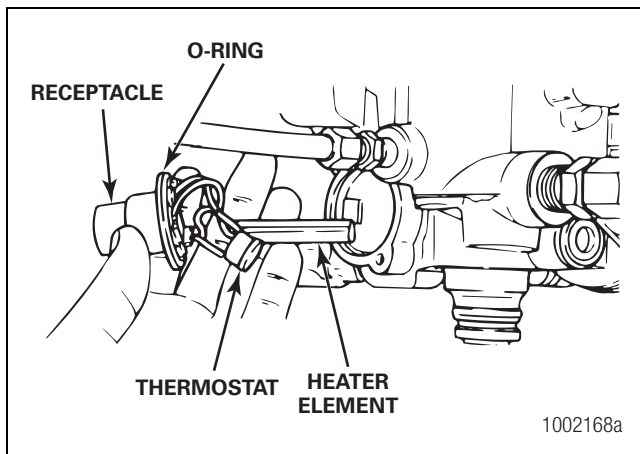

Figure 2.6
8. Install the receptacle and fasten them in place with the screws. Figure 2.6.